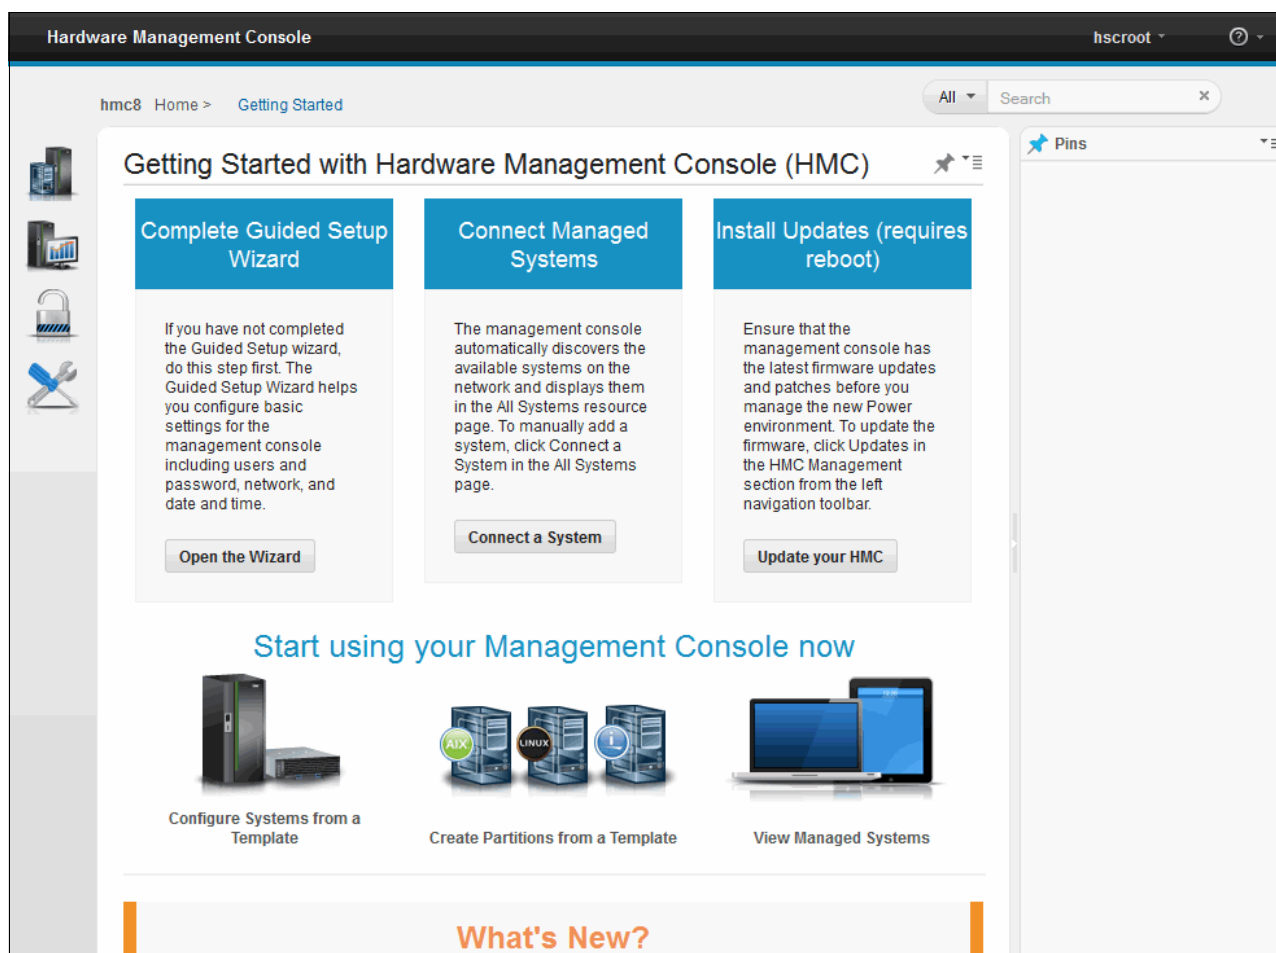

Figure 5-5 Getting Started with HMC
7. When you first log in to the HMC V8R8.4.0, the Getting Started with HMC panel opens (Figure 5-5).